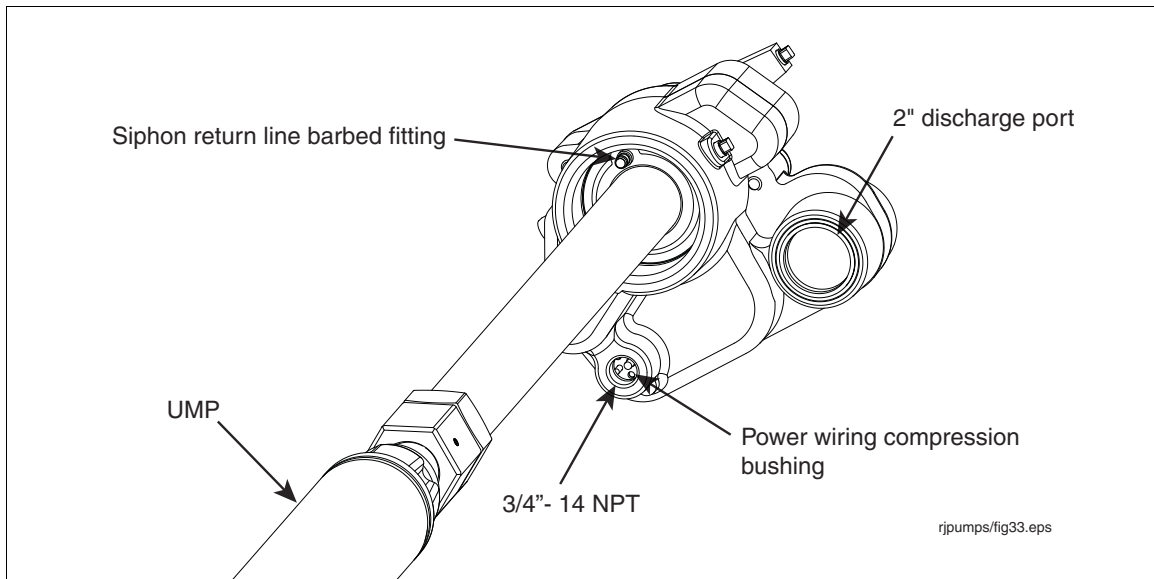

Figure 11. Locating Return Line Fitting On Packer
7. Attach the siphon return line tubing to barbed fitting in the base of packer and secure with a clamp (see Figure 11).